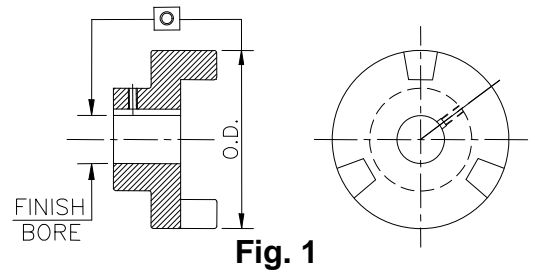

Fig. 1
(1) BEFORE INSTALLATION
- c. Follow instruction given on page no. 28, if couplings are pilot bored. (Fig. 1)